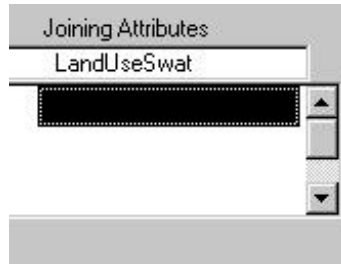

Figure 6.16
- a. To manually assign land cover/plant codes, double-click in the *LandUseSwat* in the *Joining Attributes* box (Figure 6.16).